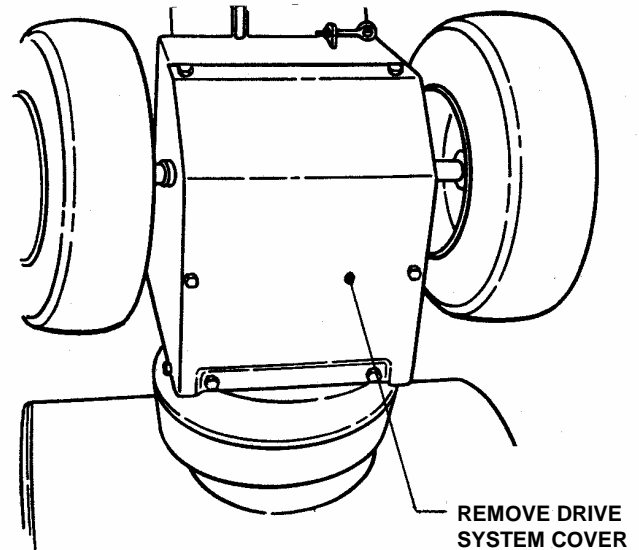

FIGURE 4.7
5. Tilt machine forward to gain access to drive system area. Secure machine in the tilted position to prevent tipping over. Remove drive system cover plate. See Figure 4.7.
1. Tilt machine forward to gain access to drive system area. Secure machine in the tilted position to prevent tipping over. Remove drive system cover plate. See Figure 4.7.